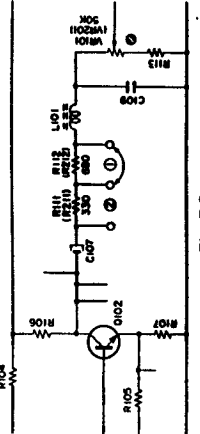

Fig. 7.3
| 7    | Playback Frequency Response            | 400 Hz Level Tape (DA09005A)10 kHz PB Frequency Tape (DA09003A)15 kHz PB Frequency Tape (DA09002A)20 kHz PB Frequency Tape (DA09001A) | VTVM to OUTPUT Jacks                    | Same as above   | Main P.C.B. R112, R212                       | 1. Load the 400 Hz level tape and play it back.2. Load the 10 kHz, 15 kHz and 20 kHz PB Frequency Response Tapes and adjust the record/playback head azimuth to give maximum levels on the VTVM with each tape.Short R112 (R212) to obtain the following levels against 400 Hz level tape. Refer to Fig. 7.3.10 kHz (-20 dB) -2 dB to +2 dB15 kHz (-20 dB) -2 dB to +3 dB20 kHz (-20 dB) -2 dB to +4 dB3. Conduct step 5 "Record/Playback Head Azimuth Alignment"4. If above is not sufficient, refer to "Playback Frequency Response Adjustment" in item 7.2. |